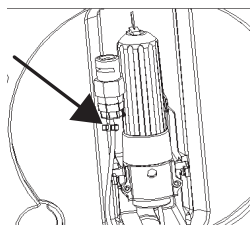

Fig. 9
1. Place the CO₂ connection hose next to the CO₂ cartridge sheath. Neither of these components is required for Heineken kegs (Fig. 9).